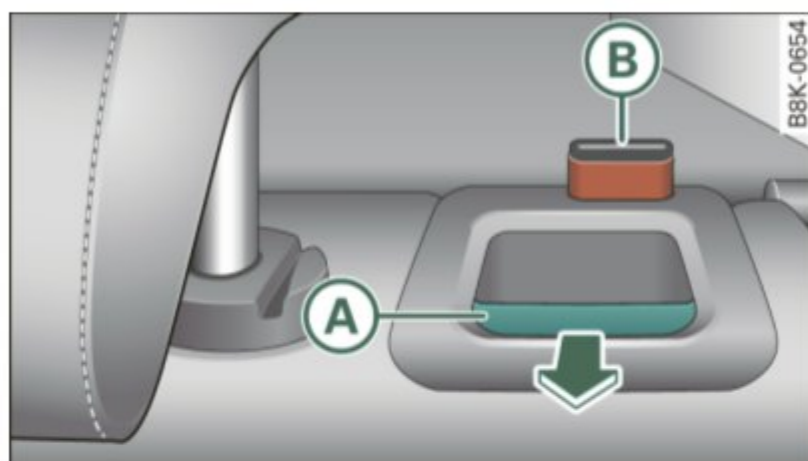

Fig. 93 Release handle on the seatback
- When you pull the release lever (A) ⇒ fig. 93 in the direction of the arrow, the safety knob (B) pops out far enough for the red marking on knob to be visible.